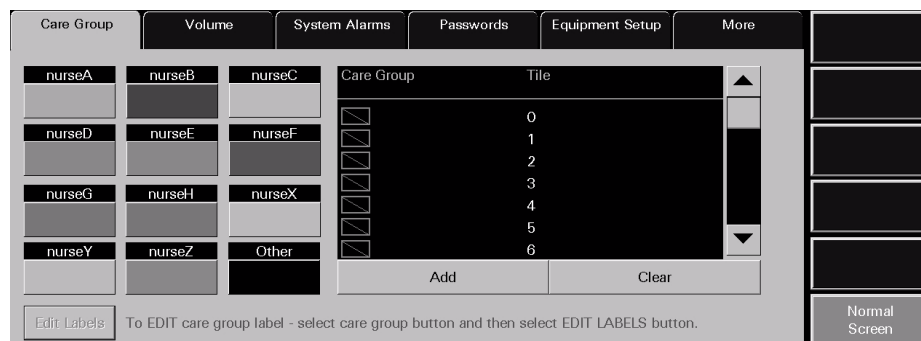

FIGURE 9-30 Tabs available when Previous tab is selected
5. Select the **Previous** tab to display the first set of tabs (shown in FIGURE 9-30) associated with the **System Setup** tab.